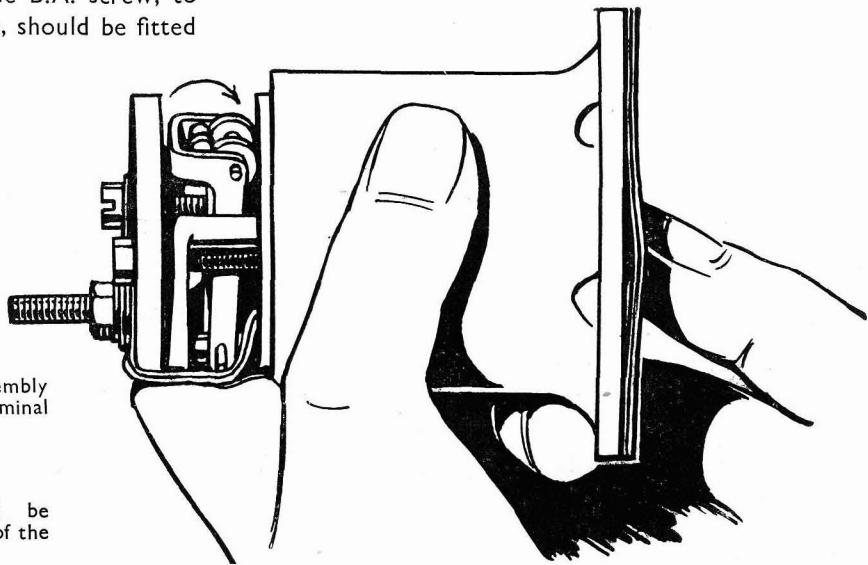

Fig. 28.
2. Fit the impact washer (10) in recess of armature.
6. Push armature in with the thumb of the right hand, pushing firmly but steadily. If the contact breaker throws over, the armature should be screwed in further until it ceases to do so, it should then be unscrewed one-sixth of a turn at a time, until a position is found where the contact breaker rocker just throws over, care being taken to avoid jerking the armature. It should be pressed in steadily (see Fig. 28). The armature should then be unscrewed a further two-thirds of a turn when the setting is correct. **Do not forget that this setting must be carried out.**